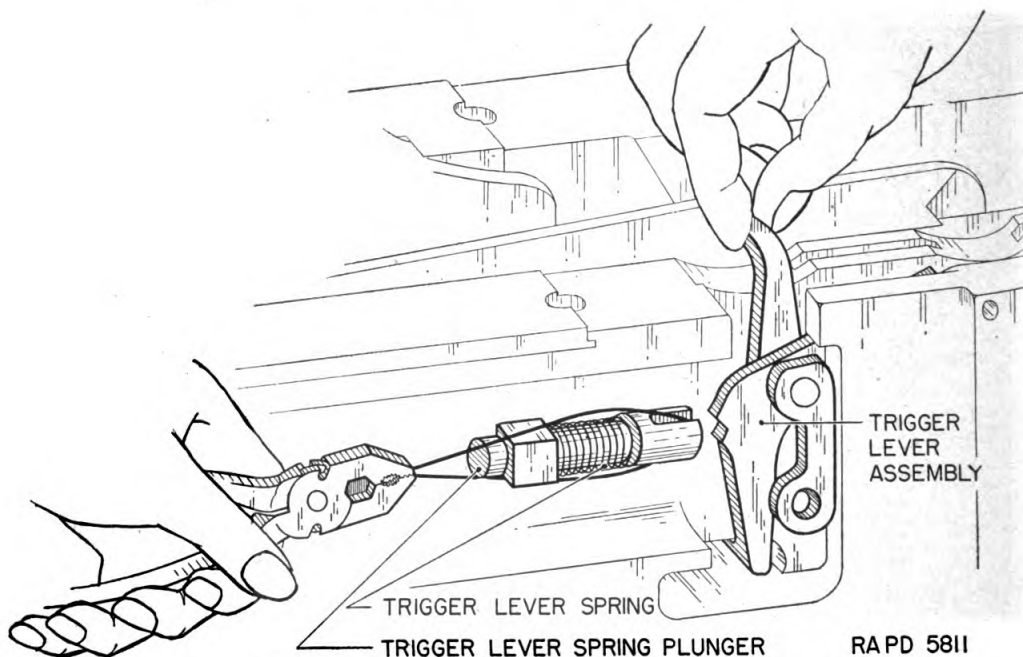

FIGURE 67.—Removal of trigger lever assembly.
(2) Loop a piece of wire around the front portion of trigger lever spring plunger and pull plunger to the rear by means of a pair of pliers as shown in figure 67. If the wire and pliers are not available, the plunger must be depressed by means of a screw driver or the plunger pulled back by means of a pair of pliers holding the back part of the plunger.
(3) Lift out trigger lever assembly.
(4) Ease out trigger lever spring plunger and spring.
*b. Installation.*—(1) Replace the tube extension in the reverse order of removal.